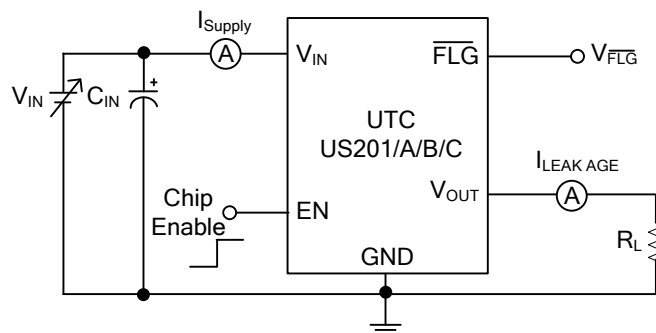

Fig.2 Supply Current
- Fig.2 Supply Current vs. Input Voltage & Temperature, Switch Off Supply Current vs. Temperature, Turn-Off Leakage Current vs. Temperature.